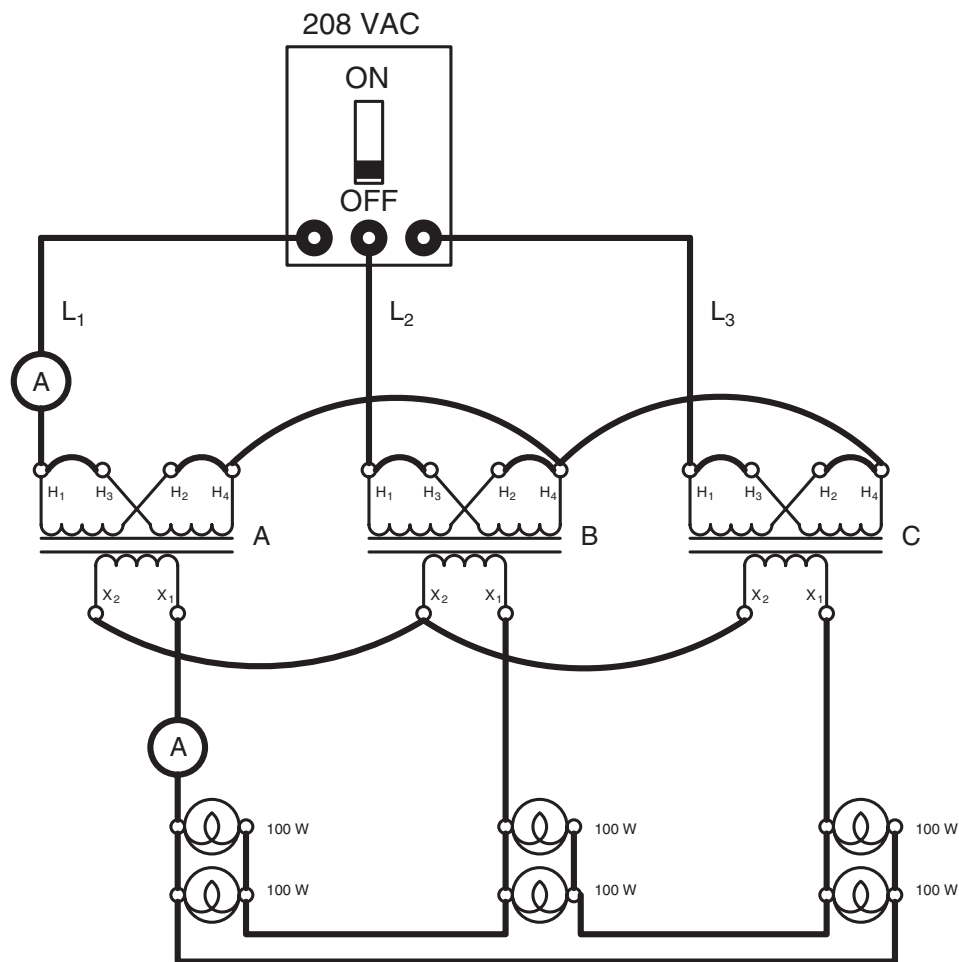

Figure 24-26 Transformers with a wye connected primary, wye connected secondary, and delta connected load.
51. Connect the circuit shown in Figure 24-26.